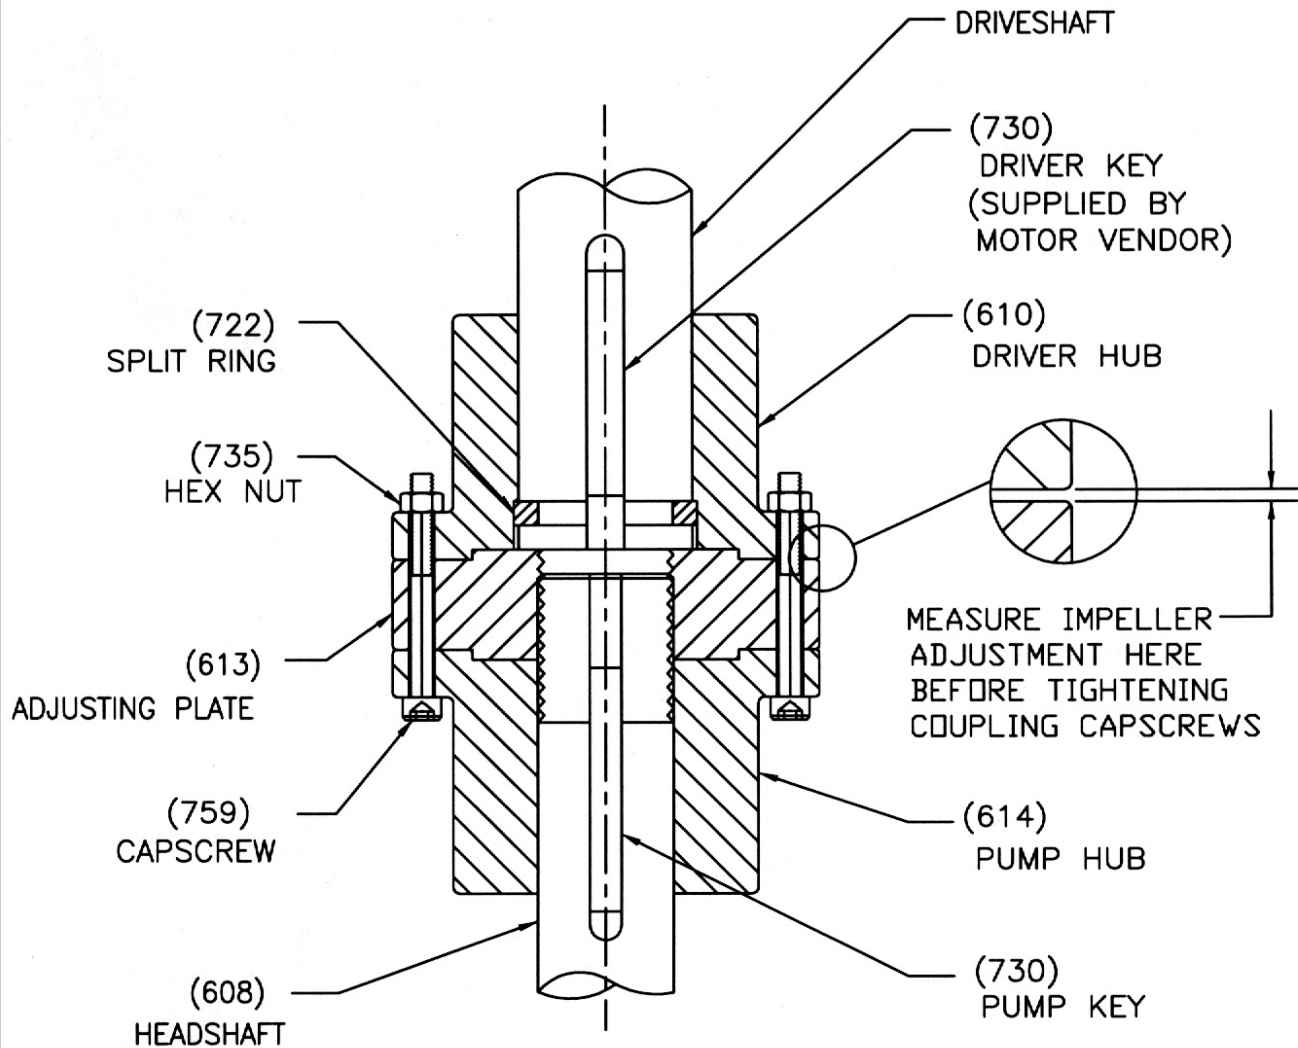

Fig. 17
1. The coupling shown between the drive shaft and head shaft may be a non-spacer type (See Fig. 17) or a spacer type (See Fig. 19). The latter is used on pumps furnished with mechanical seal to permit servicing of the seal without lifting the gear.